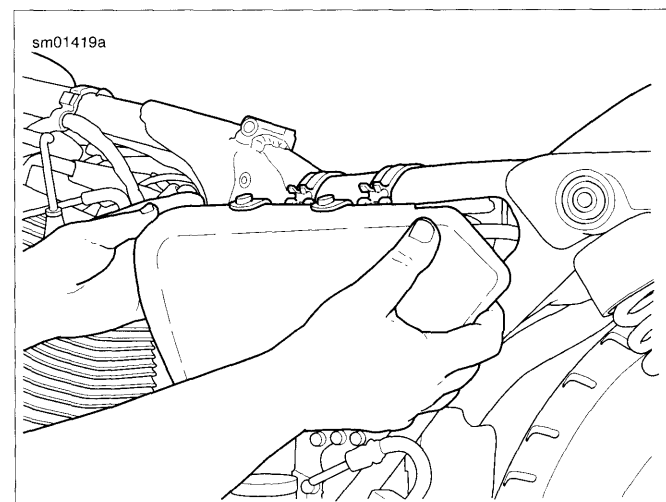

Figure 2-138. Removing Left Side Cover: All Models (XL Model Shown)
2. See Figure 2-138. Lift side cover up and tilt cover to the rear of the motorcycle. With a slight back and forth rocking motion, pull up gently until cover disengages from mounting tab on battery tray.